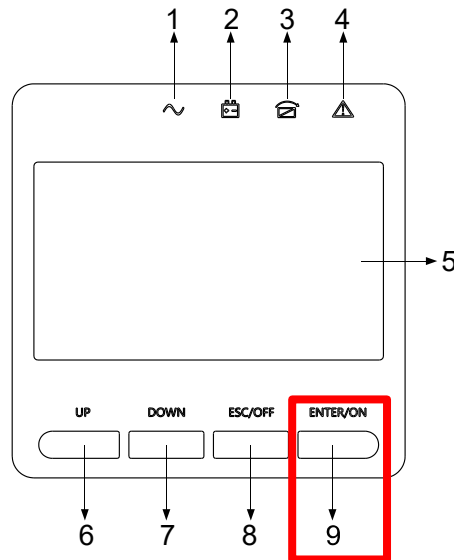

Fig. 4-2 Cold Start button
- Trigger the cold start buttons at the position 9 in Fig. 4-2.